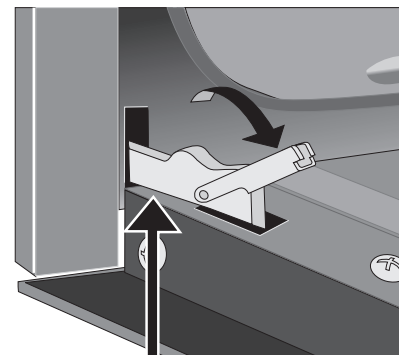

Figure 14: Unlocking door hinge
4. Pull the bottom of the door toward you while rotating the top of the door toward the appliance to completely disengage the hinge levers (Figure 14).
1. Firmly grasp both sides of oven door along the door sides. Do not use the oven door handle (Figure 14).
2. Hold the oven door at the same angle as the removal position. Carefully insert the hinge levers into the oven frame until you feel the hinge levers are seated into the hinge notches. The hinge arms must be fully seated into the hinge notches before the oven door can be fully opened. (Figure 14).